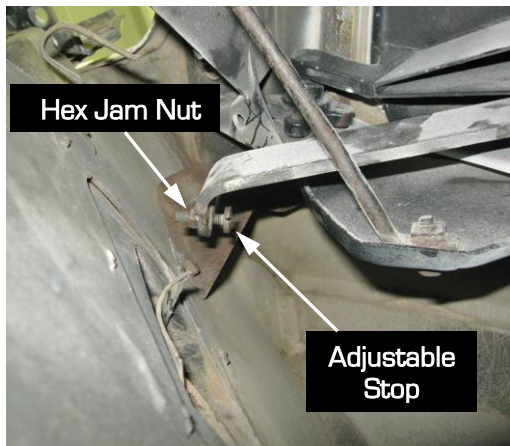
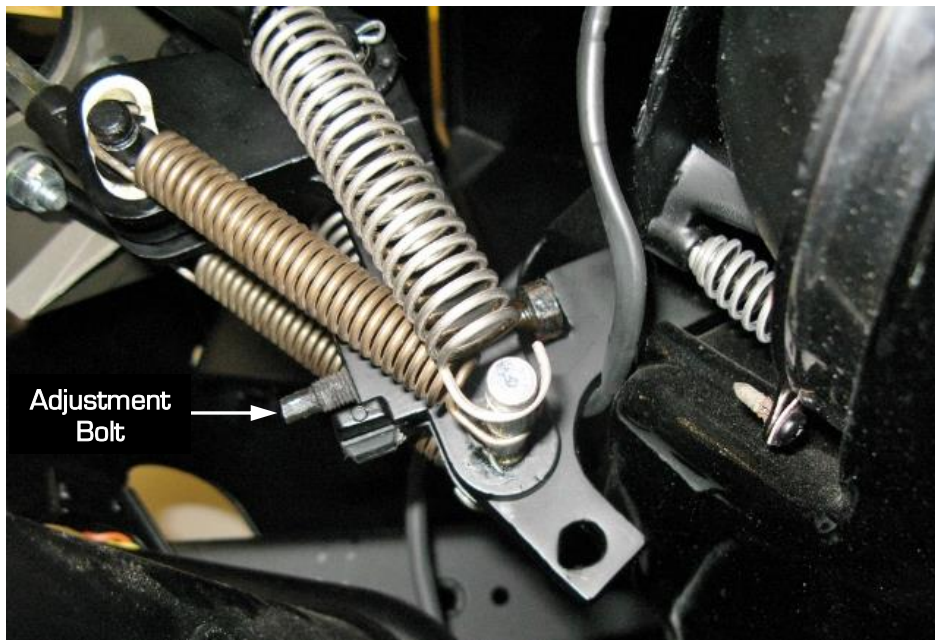

Figure 9 – Headlight Door Stop
Figure 16 - Adjustment Bolt for Closed Headlight Door
10. Remove the adjustable stop from the arm on the headlight door assembly. Move the hex jam nut from the front side to the back side of the bracket and re-install the stop (Figure 9). This will give you more adjustment once the round bumper pad is installed. The stop will need to be adjusted later when testing the opening height of the headlight door actuators.
16. Use a 7/32" wrench or socket to adjust the bolt to set the closed height of the headlight door so it is slightly below flush of the front end (Figure 16).
42. Adjust the height of the stops on the doors as needed by adjusting the hex jam nut and moving the stop on the arm (Refer to Figure 9) for the opened height of the headlight door. That way the headlight doors will be open at the same height. Adjust the bolt on the door linkage as needed for the closed height of the doors (Refer to Figure 16).